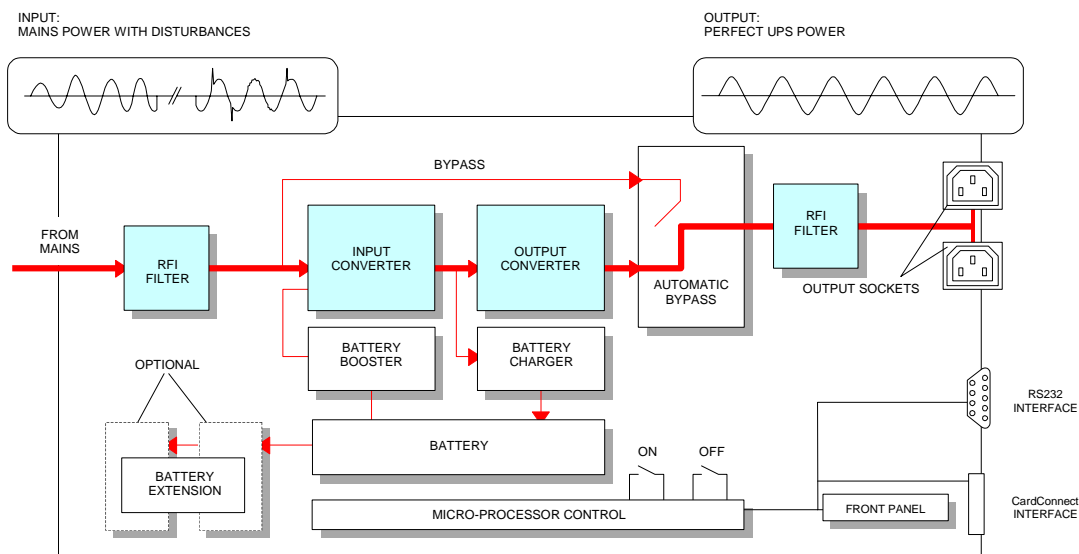

Figure 1 Block diagram of the NetPro 600-1500 UPS, mains present
The UPS stores electric energy in batteries housed in the unit. This allows the UPS to supply output power even when the incoming mains power is cut off completely. Energy is stored as Direct Current (DC), while input and output energy are Alternating Current (AC) in sine wave form. Therefore the UPS contains an input converter (AC to DC) and an output converter (DC to AC) (See fig.1).